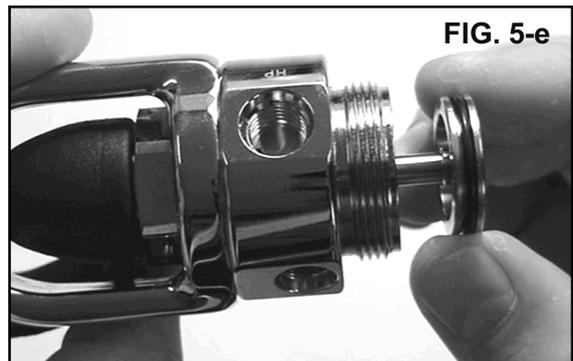

FIG. 5-e
6. Remove the HP piston (19) from body (13) by carefully grasping the piston between thumb and forefinger, pulling straight up with a slow, steady force. Refer to **Figure. 5-e**